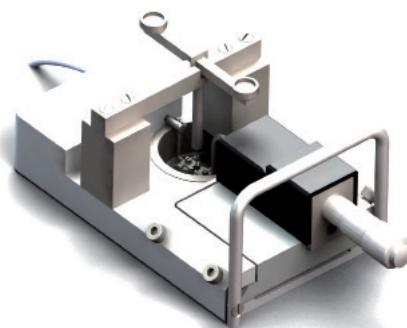

Figure 4.6 - Weight calibration kit shown in place on a single myograph chamber
2. Set up the calibration kit (bridge and balance) on one of the myograph chambers as illustrated in Figure 4.6. Also place the weight on one of the chambers. Turn the heat on as discussed in Chapter 3. The system takes about 20 to 30 minutes to reach 37°C. Obviously, lower temperatures take less time and higher temperatures take more time to reach. Make sure adequate time is allowed so that calibration can be performed at the temperature at which the experiments will be performed. Placing the calibration kit and weight on the chamber allows them to warm up to the experimental target temperature. No need to bubble the chambers while waiting for the system to heat up.